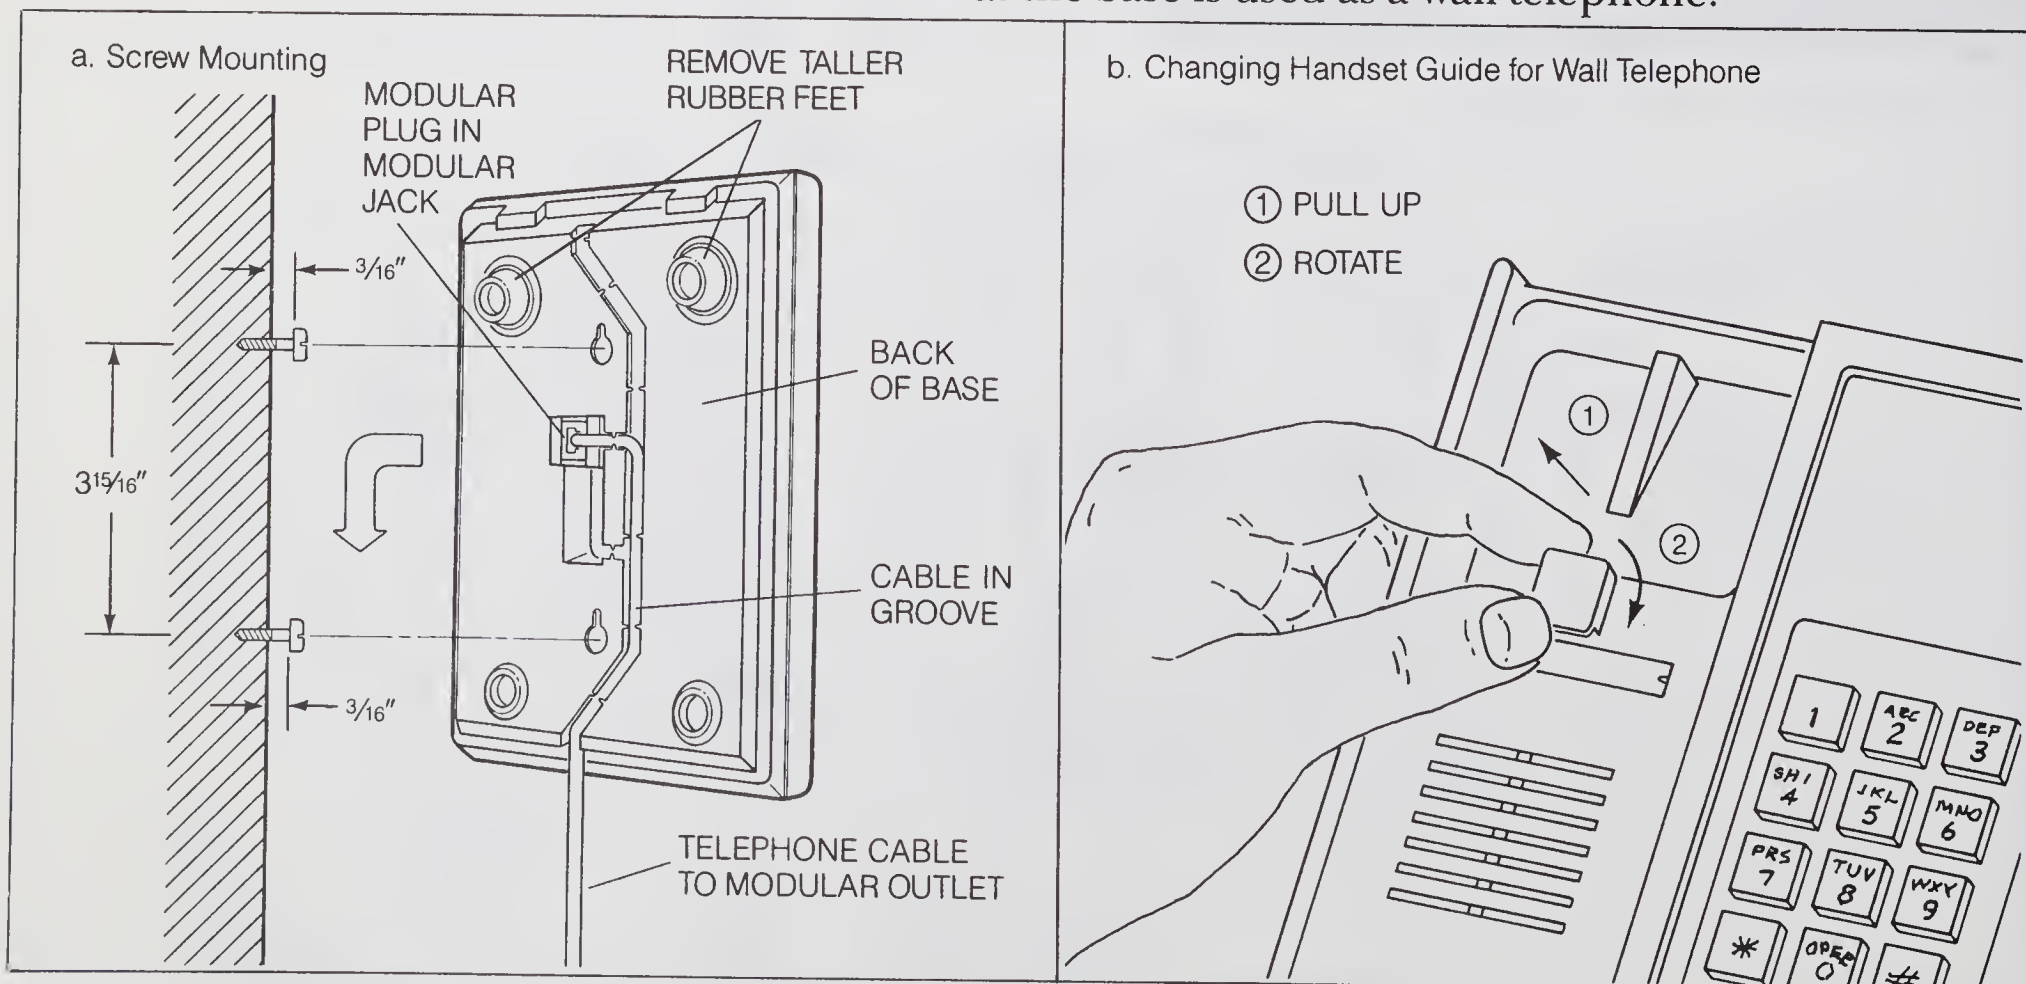

Figure 3-8.
9. Many of the contemporary telephones, like the one shown in *Figure 3-8*, can be mounted on the wall without a modular wall plate. Locate a wall stud and determine where the telephone should be located when mounted on the two screws provided. As shown in *Figure 3-8a*, locate the screws apart vertically $3\frac{15}{16}$ ". Drill small starting holes and insert the screws into the stud until the underside of the head is $\frac{3}{16}$ " from the wall.
11. Remove the taller rubber feet from the top of the base as shown in *Figure 3-8*. Hang the telephone on the screws and plug the other end of the line cord into a convenient modular outlet. Plug the handset cord into the base using the modular plug. You should have a dial tone. As shown in *Figure 3-8b*, pull up and rotate the handset guide to prevent the handset from falling off the cradle base now that the base is used as a wall telephone.